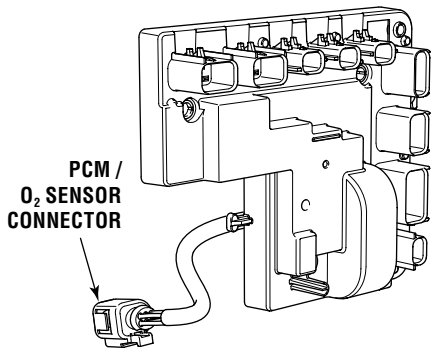

Figure 4-20.
- d) Disconnect O₂ sensor from PCM shown as in figure 4-20.